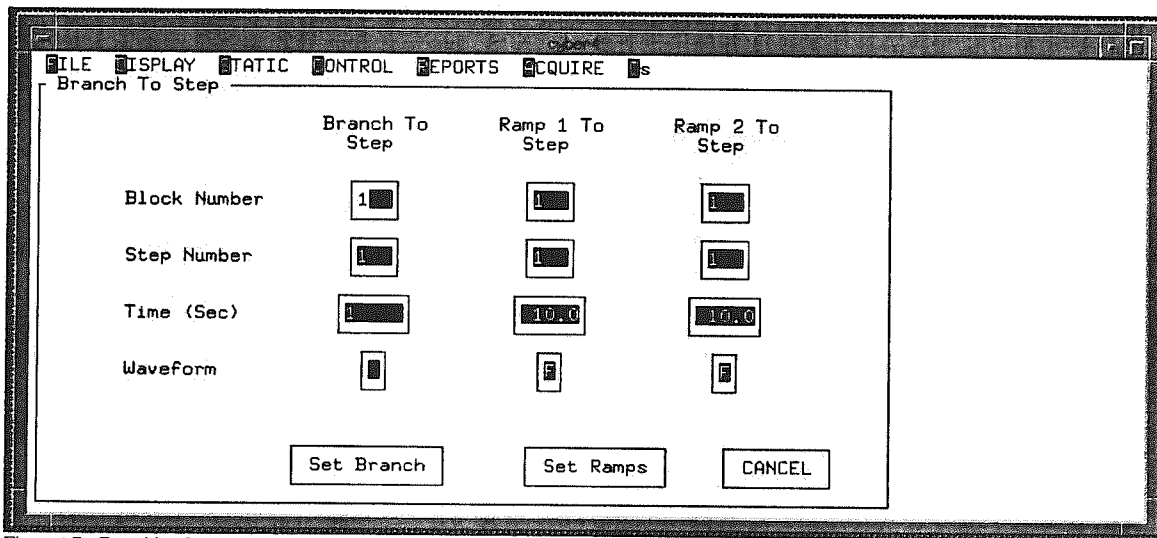

Figure 4-7 Branching Screen
- Step 1:** Select the STATIC menu, BRANCHING option. The BRANCHING screen shown in Figure 4-7, is displayed.